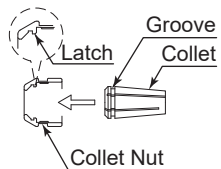

Fig. 11
- ③ To install the collet, hold the collet at a slight angle, and insert it into the collet nut (Fig. 11).